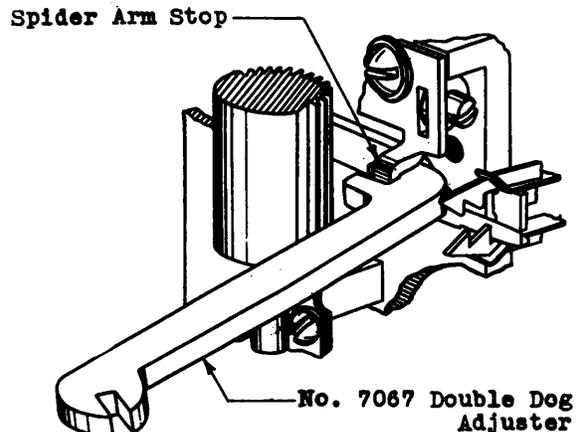

Fig. 10 - Method of Adjusting the Spider Arm Stop
(1) To center the wipers on the block contacts in the third side switch position, adjust the spider arm stop as required with the No. 7067 double dog adjuster as shown in Fig. 10.